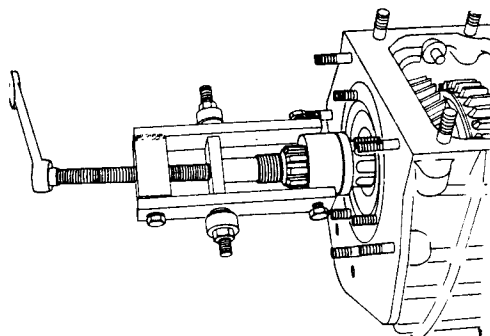

Fig H1.61
- (4) Refer to Fig H1.61. Using special tool RO1004 remove the spacer bush (2).